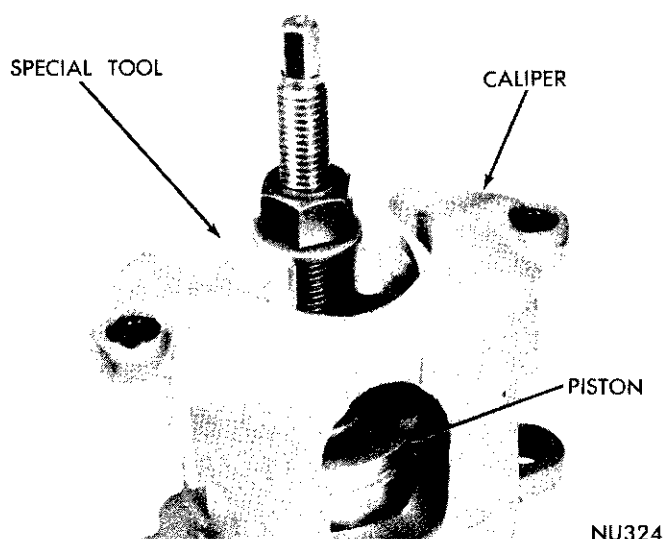

Fig. 10—Removing Piston from Caliper
- (1) Mount caliper assembly in a vise equipped with protector jaws (Fig. 10). (Caution: **Excessive vise pressure will cause bore distortion and binding of piston.**)
- (3) Using Tool C-4087, remove piston from caliper (Fig. 10). Care must be used so as not to scratch, burr or otherwise damage piston on outside diameter. To do so effects sealing qualities of piston. Draw piston straight out of its bore. If a piston becomes cocked removal is more difficult and piston or bore may be damaged. **CAUTION: UNDER NO CONDITION SHOULD AIR PRESSURE BE USED TO REMOVE PISTON FROM BORE. PERSONAL INJURY COULD RESULT FROM SUCH PRACTICE.**
(1) Clamp caliper in vise (with protector jaws), (Fig. 10). Caution: Excessive vise pressure will cause bore distortion and binding of piston.